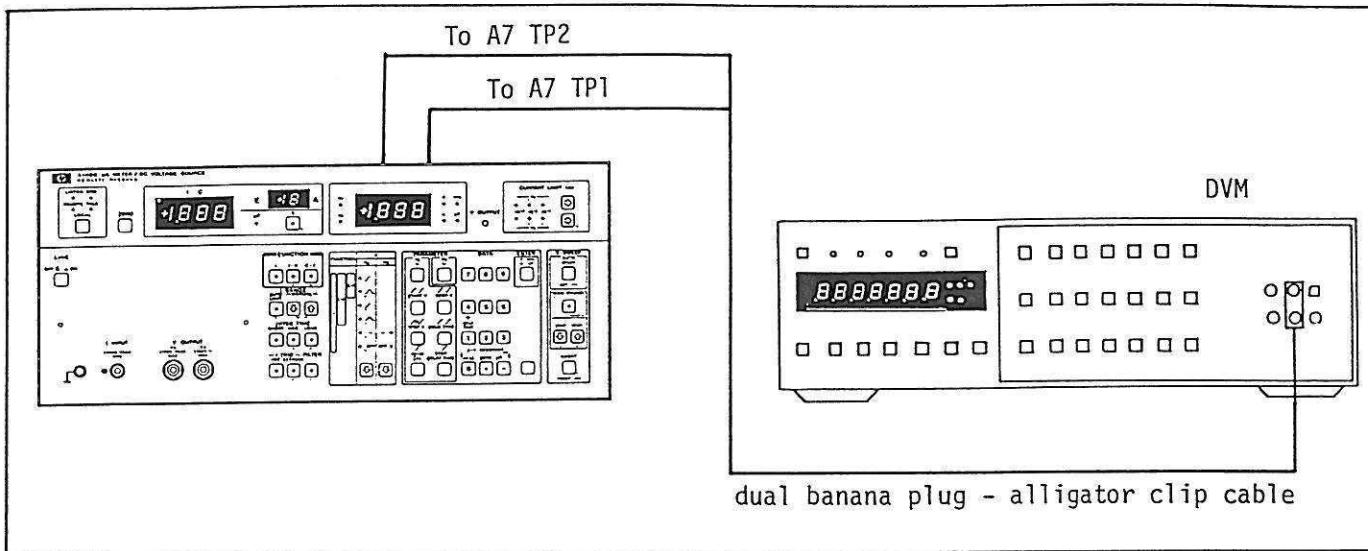

Figure 5-1. Power Supply Voltage Adjustment Setup.
1. Connect the positive input of the DVM to A7TP2 (-15VF) and the negative input to A7TP1 (F COMM) with the dual banana plug - alligator clip cable. See Figure 5-1.